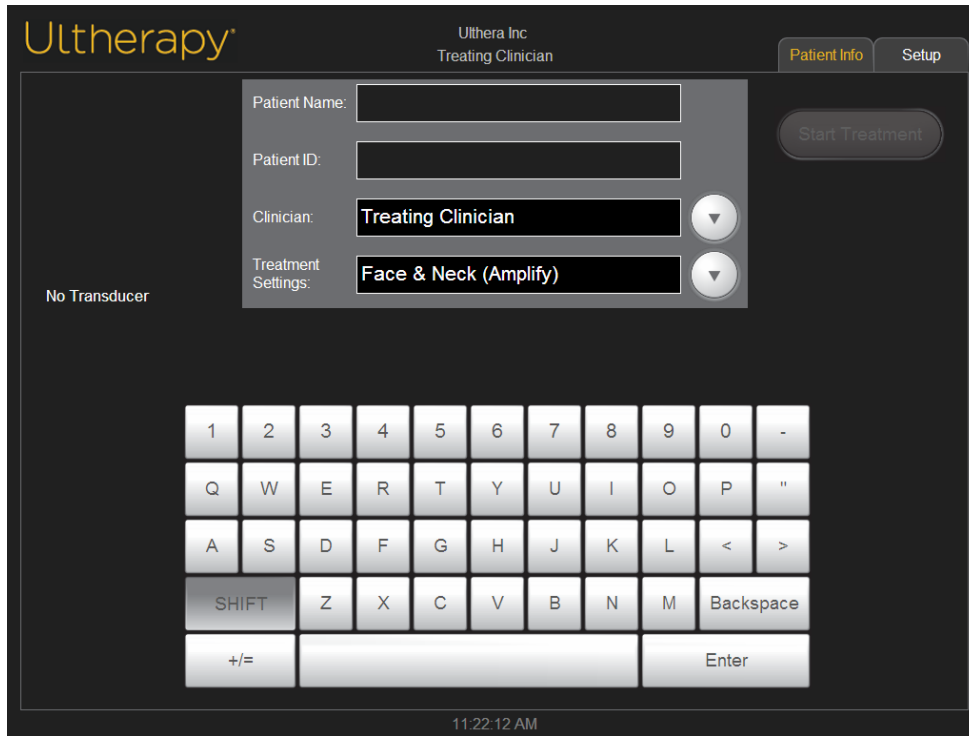

Figure 7.6 Patient Info Screen
1. The **Patient Info** screen shown in Figure 7.6 is the first screen displayed when you turn on the system.